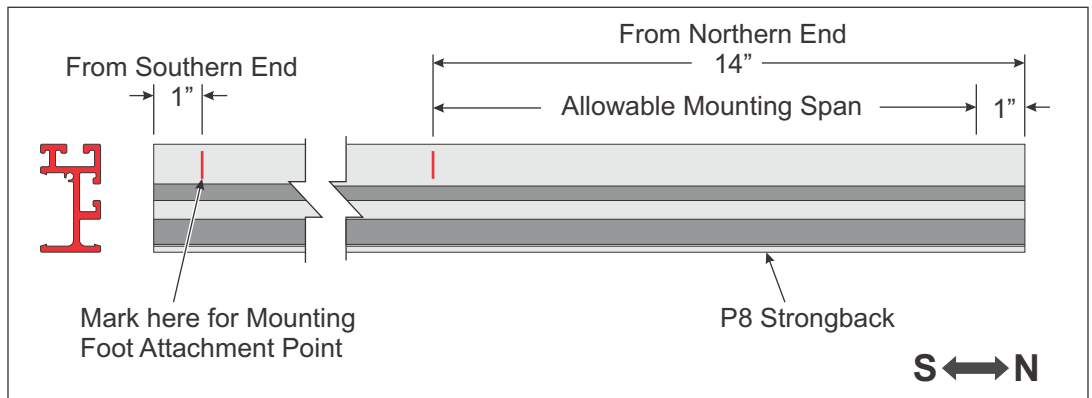

Figure 2-1: Measure and Mark Attachment Points on P8 Strongback
- A. From the southern end of the P8 Strongback, measure and make a mark 1-inch from the end. This is where the P8 Strongback will attach to the southern Mounting Foot. (See Figure 2-1)